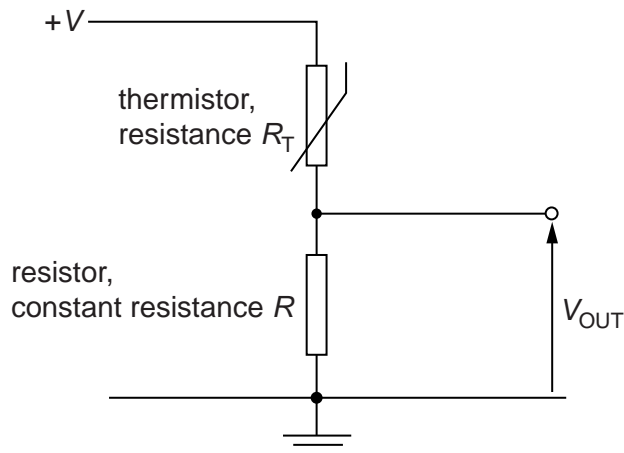

Fig. 9.1
- (b) A student designs the circuit of Fig. 9.1 to detect changes in temperature in the range 0°C to 100°C.